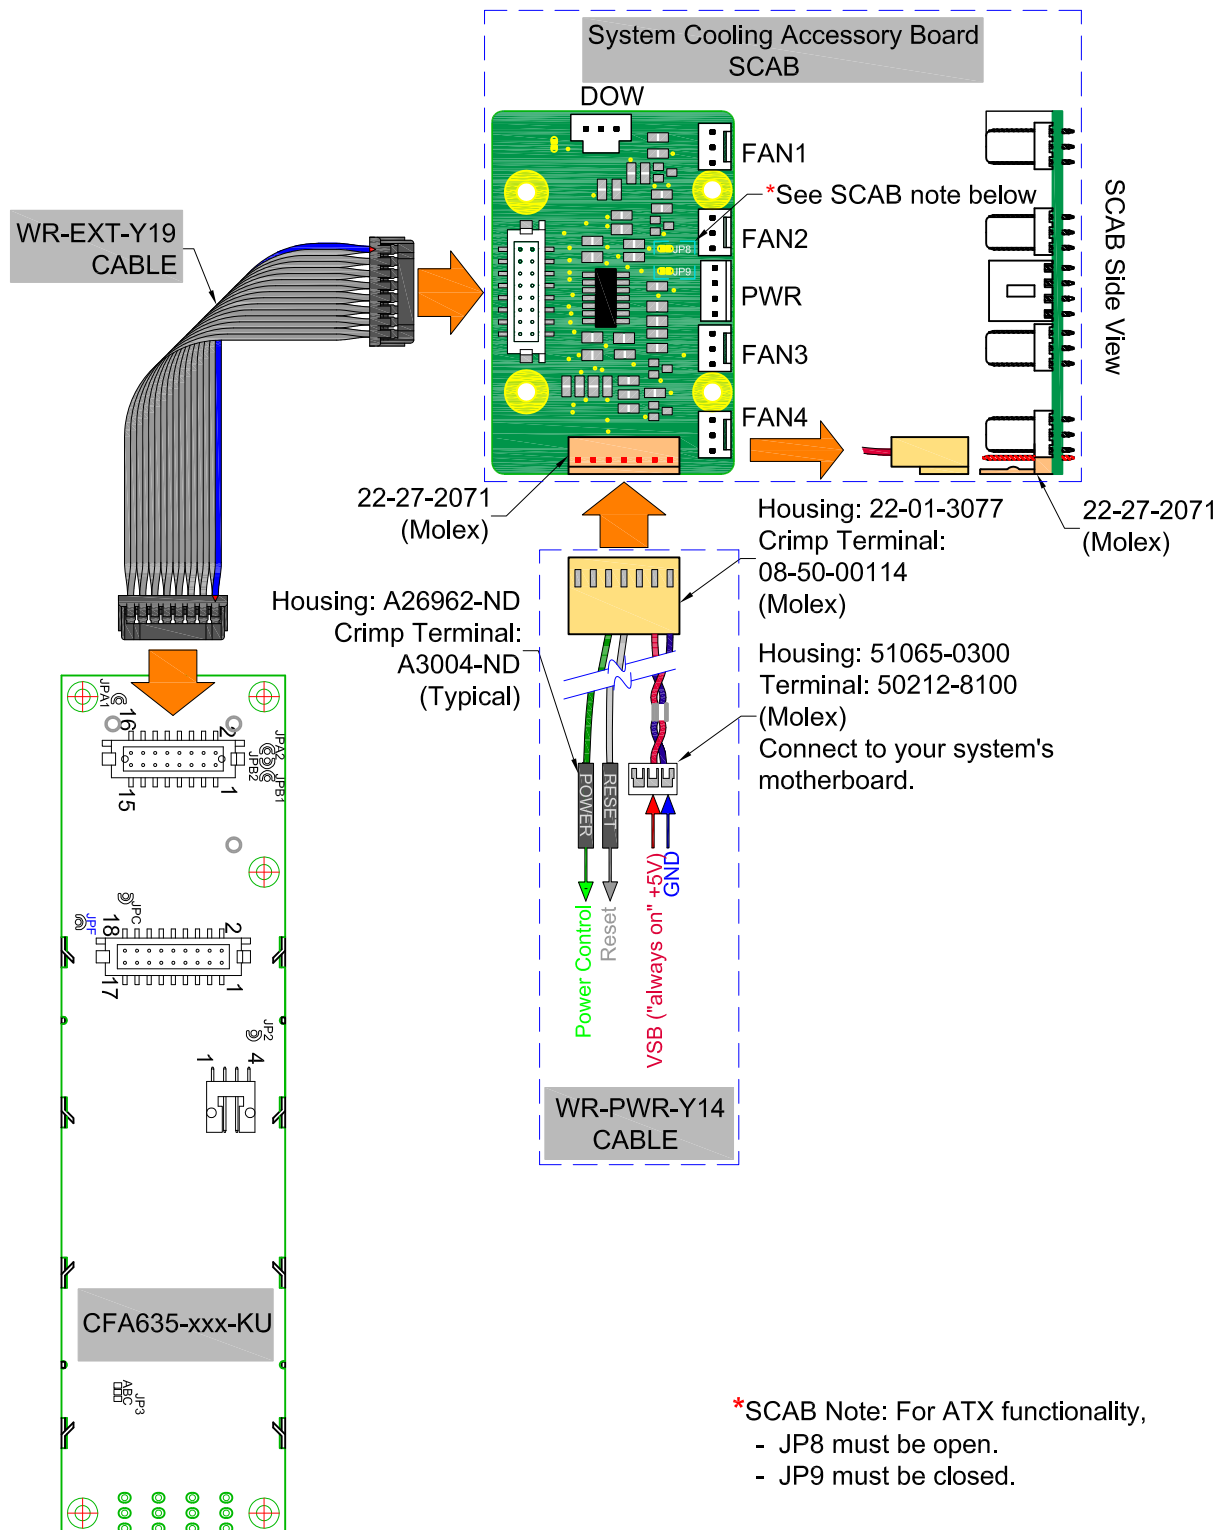

Figure 5. ATX Power Supply and Control Connections Using Crystalfontz Optional SCAB
*SCAB's JP8 must be open and JP9 must be closed. For quick reference of location, see Figure 5. on Pg. 23 . For details, see the SCAB Data Sheet on www.crystalfontz.com/product/SCAB.html#docs .